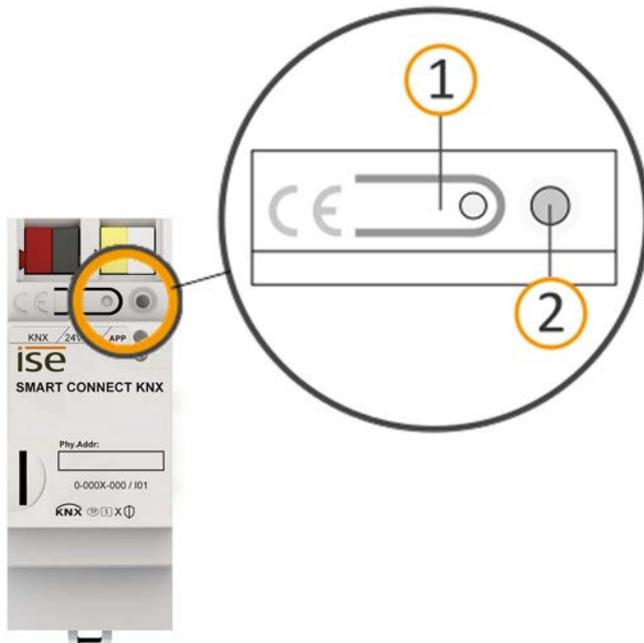

Figure 27: Programming
1. Briefly press the programming button (see figure 27, item 1). Alternatively, you can also press the programming button on the device website. The programming LED (see figure 27, item 2) lights up red.
1. Press the programming button (see figure 27, item 1) and keep it pressed while you attach the power connection terminal.